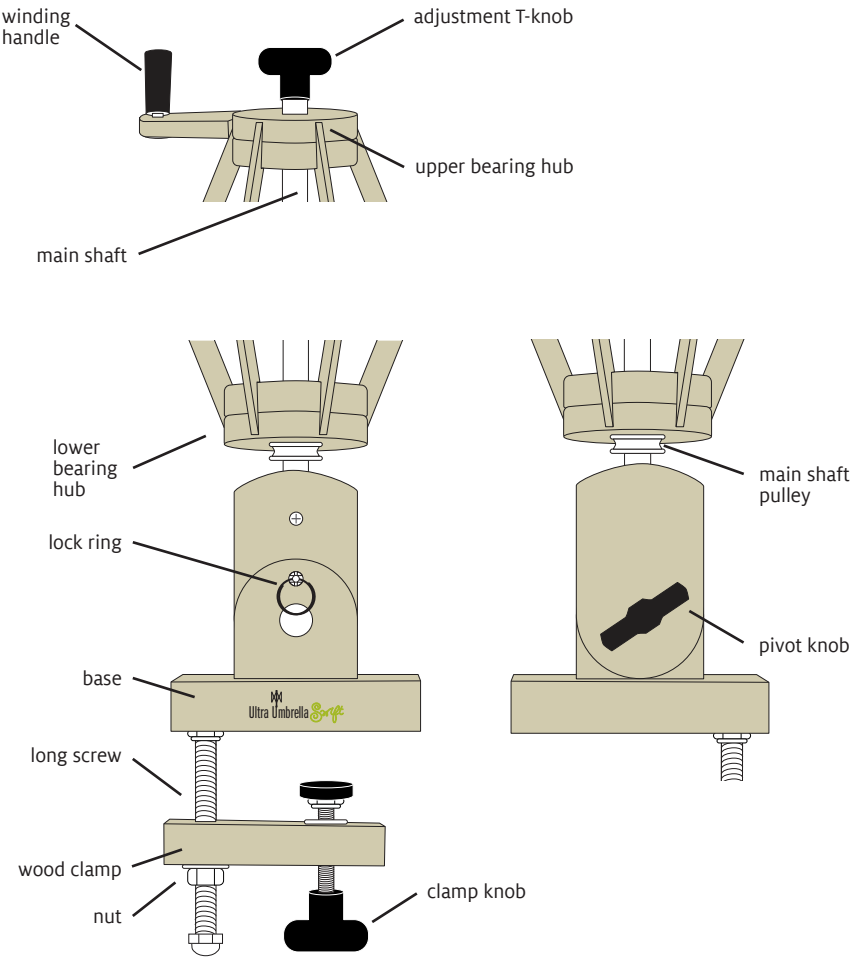

FIGURE 1: PARTS ON ALL SWIFTS
1. Loosen the clamp knob (**counter-clockwise**) and the nut on the long screw to open the wood clamp enough so that it can fit under the table edge (Figures 1 and 2).
2. With the other hand, slightly loosen the adjustment T-knob (Figure 1). Do not turn it more than a quarter turn.